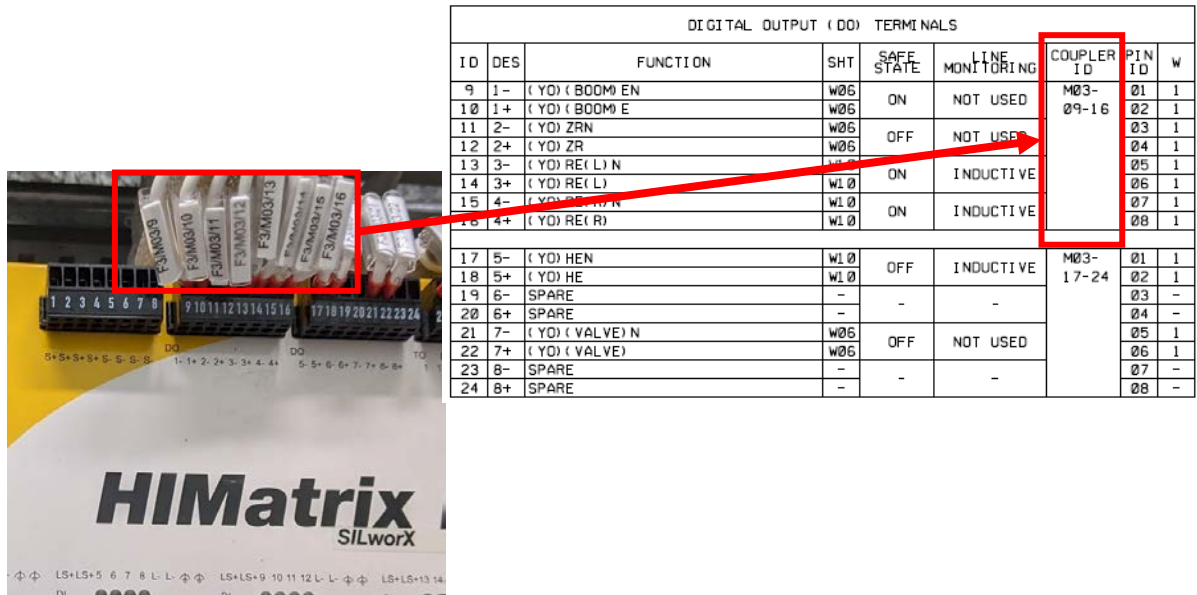

Figure 4 – Wiring Loom and Location Case Diagram
23.1 Check the labelling on the wiring loom matches the identity of the HIMatrix in the location case diagrams and the I/O numbering on the front of the HIMatrix (Figure 4).